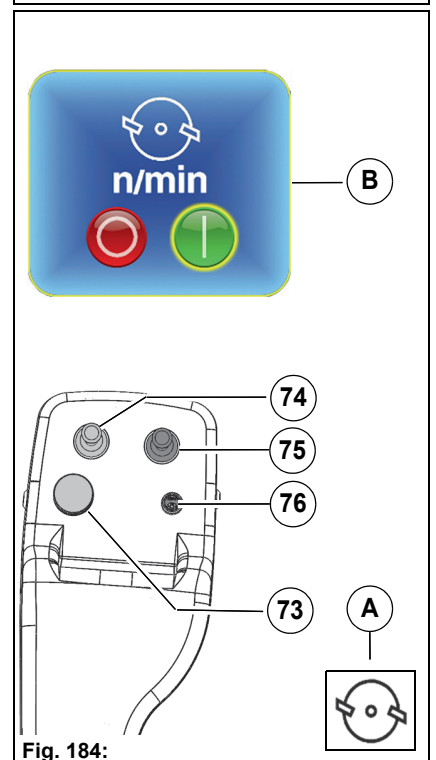

Fig. 184:
1. Switch on the work mode with the Hako button **Fig. 184-76**. The accelerator pedals must be in the neutral position. The mower information symbol **Fig. 184-A** appears in the multifunction display.
2. Use the turn-push knob **Fig. 184-73** in the working menu of the multifunction display to switch on the mower **Fig. 184-B** and to set relief (optional).